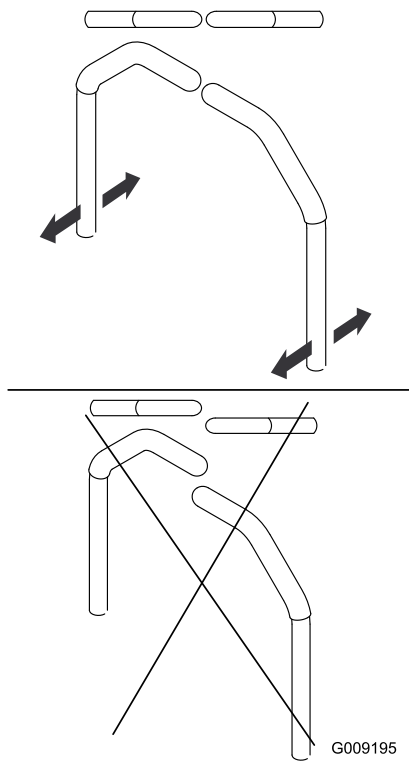

Figure 59
3. Align the front-to-rear position of the handles by bringing them together to the NEUTRAL position, and sliding them until they are aligned (Figure 59).